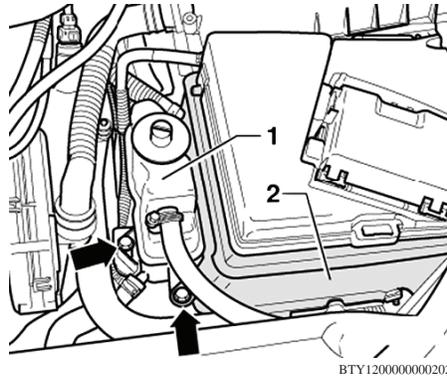

Fig. 1 Power steering reservoir removal
8. Remove power steering reservoir mounting bolts (arrows), **Fig. 1**.
9. Position power steering reservoir aside (1), **Fig. 1**.
11. Remove battery housing (2), **Fig. 1**.
5. Install battery housing (2), **Fig. 1**.